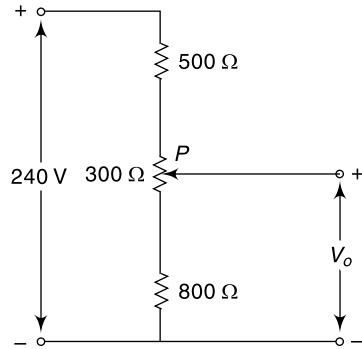

Fig. 4.12 Circuit of Ex. 4.5
4.5 Calculate the minimum and maximum values of V_o that can be obtained from the circuit shown in Fig. 4.12. P is the moving contact and can slide linearly along a $300\ \Omega$ resistor.